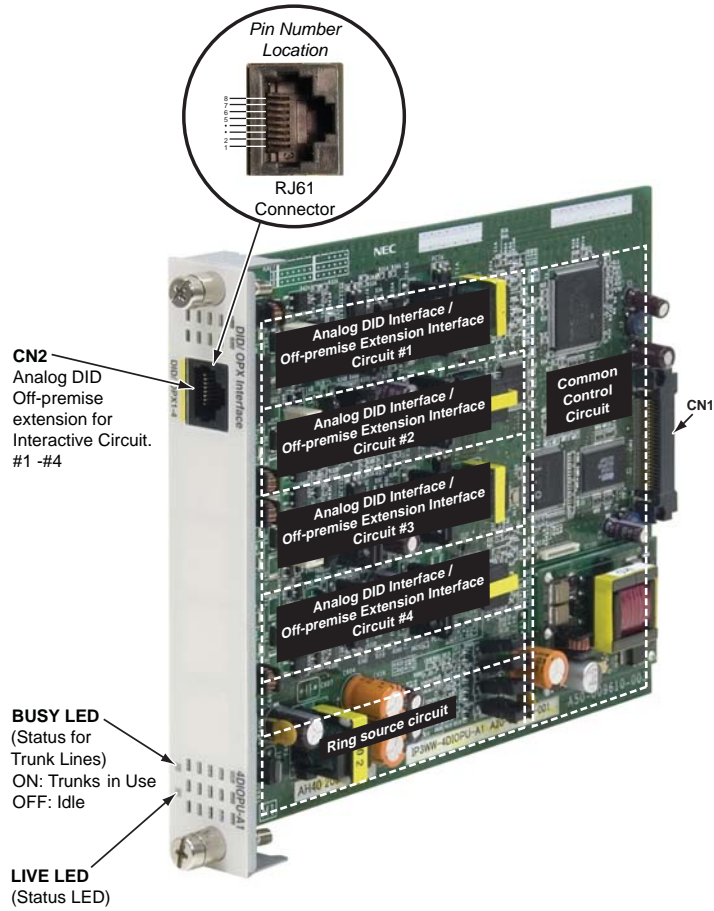

Figure 2-31: DIOPU BLADE INSTALLATION
2.7.3 Direct Inward Dial (DID) (4DIOPU) Blade (Figure 2-31) - P/N 0911054